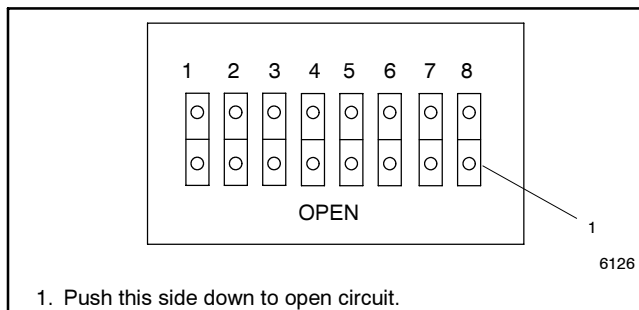

Figure 33 16-Light Controller DIP Switches
6.1 Set the controller MODBUS® address to #1 by placing DIP switches 6, 7, and 8 to the open position. See Figure 33.